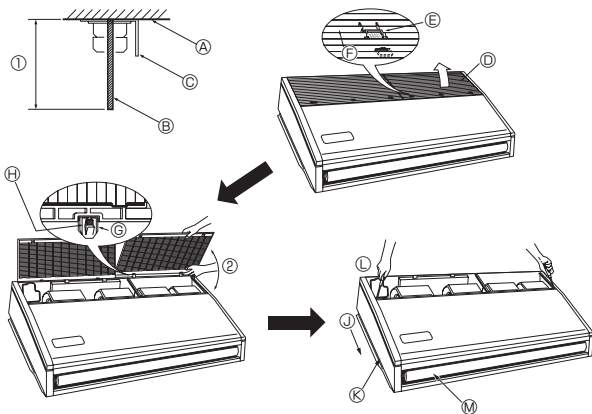

Fig. 3-4
3.2.3. Indoor unit preparation (Fig. 3-4)